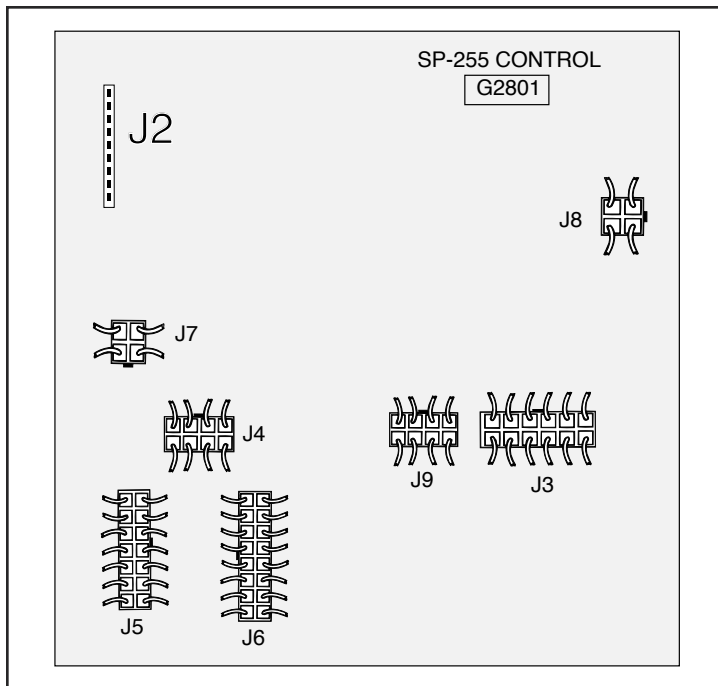

FIGURE F.8 - Plug J2 Location on G2801 PC Control Board.
6. Construct the circuit shown in Figure F.8. One 6-volt lantern battery can be used. R1 and R2 resistor values are $\pm 10\%$. Set voltmeter scale low, at approximately 0-5 volts or 5-10 volts.
- a. Test the voltage level of the battery. Short leads (A) and (C). Close switch SW-1. Battery voltage should be 4.5 volts or higher. If lower, replace the battery.
13. Reconnect the Tester leads. See Figure F.8.
- a. Connect Tester lead (A) to the cathode.
- b. Connect Tester lead (C) to the anode.
- c. Disconnect Test lead (G) from the gate.
3. Locate and disconnect Plug J2 connected to the Control PC Board. See Figure F.8.